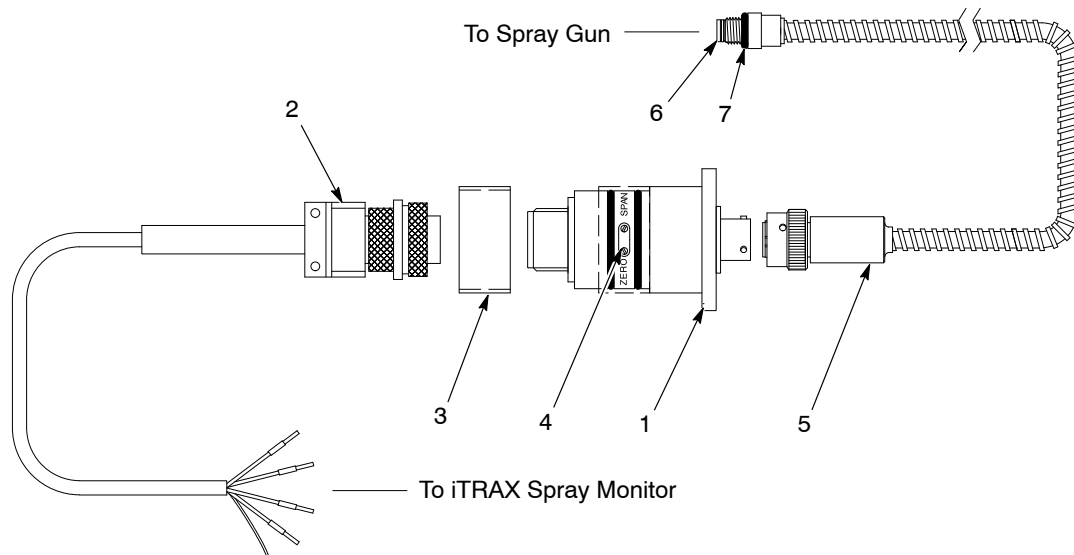
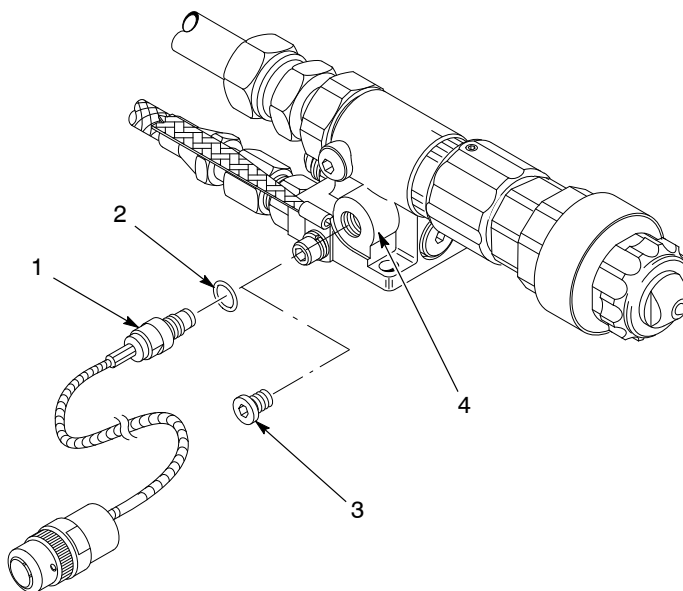

Figure 1 Pressure Transducer and Amplifier Assembly
Figure 3 O-Ring Replacement
Figure 1 shows the pressure transducer and amplifier assembly. The assembly is a calibrated, matched set. Cable lengths are:
1. See Figure 3. Make sure the O-ring (2) is installed on the pressure transducer (1).
2. Remove the transducer plug (3) from the spray gun manifold (4)
4. See Figure 1. Connect the pressure transducer and armored cable to the amplifier.